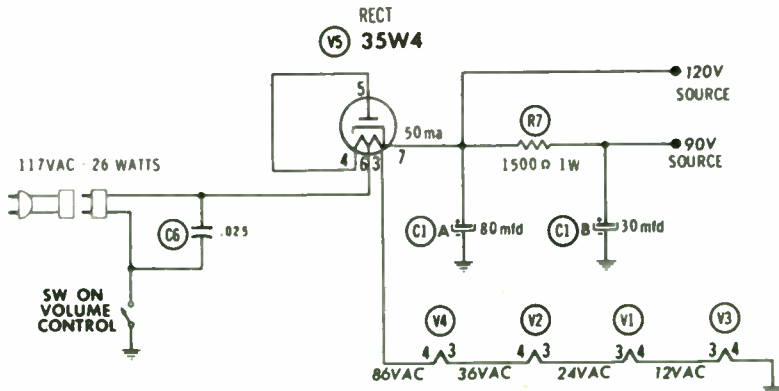

Figure 23 — Schematic of radio power supply.
This time you will need the low-ohms scale, since the resistance should be about 150 ohms (the total of all the tube heaters in series—see Figure 23).
4. Assuming no short is present, next apply power to the set with a “cheater cord” (Figure 24). Aptly named, this cord lets you override the interlock in the back of the set. The tubes should now light. In Figure 23, the tubes are all in series. So if one is open, none of the others will be lit. When this happens, the trick is to determine which tube is open.
6. However, if you are the self-sufficient type, you can find the dead tube yourself, with your ohmmeter. There are two methods of checking the filaments. The first, and usually the easiest, is to remove the tubes one at a time and check the resistance between the filament pins on the tube. Referring to Figure 23, we see that the filament connections for all tubes are to pins 3 and 4 except for V5, which has an additional connection to pin 6. Be sure to check between pins 3 and 6, then between 6 and 4. (Looking toward the base, start at the blank space and count in a clockwise direction for pin numbers.) The resistance of the filaments will vary from 15 to 65 ohms, but if you obtain a low-resistance reading, you can assume this tube is not the faulty one.
circle. Then by referring to the circuit diagram in Figure 23 and the resistance chart in Figure 26, you can measure resistance down the tube heater (filament) string in the following manner. Hook one of the test leads to the switch to obtain a ground. (Switch on, with power plug, or cheater, out of wall socket.) Then measure the resistance to ground of pin 3, tube V3; pin 3, tube V1; pin 4, tube V2; pin 4, tube V4; and pin 4, tube V5. Compare each resistance with the chart in Figure 26. What you have been doing is progressively moving up the chain of in-series tube heaters. The tube at which you don't measure the proper resistance in the open tube.
1. A quick check can be made at pin 7 of the 35W4 tube (V5). The circuit diagram in Figure 23 shows 120 volts between pin 7 and the switch or "ground" point on the printed board. If there is no voltage, the cathode of the rectifier tube has probably burned out. Before replacing the tube, however, again turn the set off and make a resistance check from pin 7 to ground. If little or no resistance is present there, chances are a faulty capacitor has placed a short across the power supply, and the short has burned out the tube. The capacitor must be replaced, of course, otherwise, the new rectifier tube will also burn out the moment power is applied.